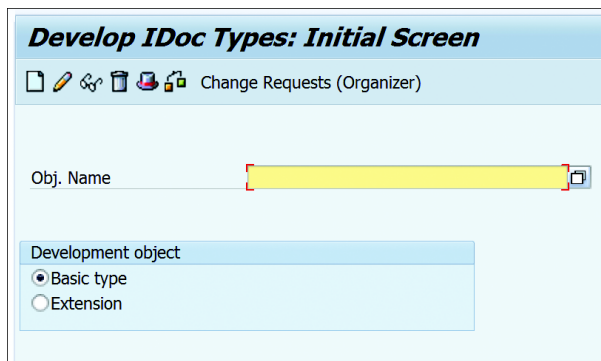

Figure 19.37 Develop IDoc Types: Initial Screen
1. On the initial screen of Transaction WE30 (see Figure 19.37), you can create a new basic type or create an extension for the existing basic type. To create a new basic type, select the BASIC TYPE radio button. If you want to create an extension type, enter the name of the basic type for which you want to create an extension and select the EXTENSION radio button. For this example, create a new basic type.